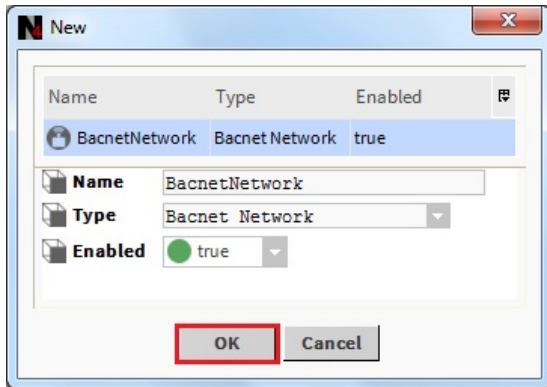

Figure 20: Adding Specification to add BACnet Network
- Next, a new window will appear, showing 'Name', 'Type' and 'Enabled'(keep its value to 'True'). Refer to Figure 20.